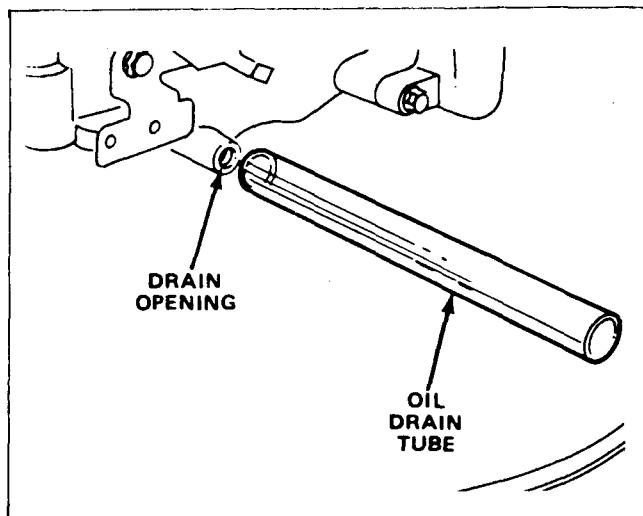

Figure 17
3. Raise the left side of the mower at least 30 cm (12"). Remove the drain plug using a 14mm wrench. Insert the oil drain tube over the drain opening. See Figure 17.